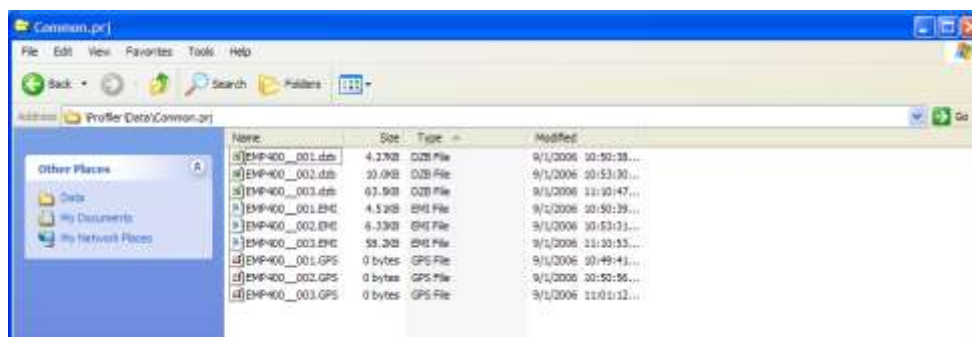

Figure 85: Profiler data file types.
7. If the user has not created a custom project directory, all of the EMP-400 data files will be found in the Common directory. Select the **COMMON.prj** folder. An example of the Common project folder contents are illustrated in Figure 85.